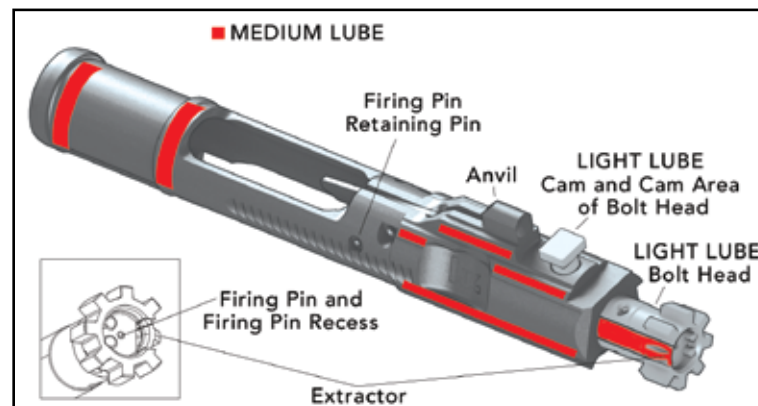

Fig. 57 – Lubrication of the Gas Piston, Piston Rod, and Barrel Nut Exterior
2. Apply a light coat of lubricant to the extractor pin, the firing pin, firing pin spring, firing pin recess in the bolt. Apply a medium coat of lubricant to the red areas (Fig. 57).
3. Apply a medium coat of lubricant to the extractor (Fig. 57).